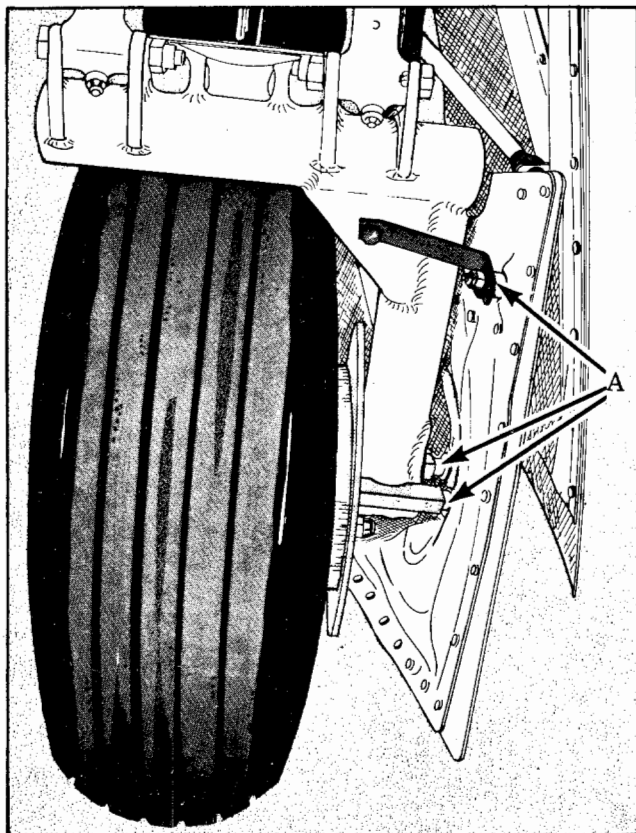

Figure 5-13 . Inboard Gear Door Adjustment Points (M20J Only)
C. Forward leading edge and aft trailing edge should be tight against the wing skin and fair with the aft bubble fairing. Spacers A (Figure 5-13) should be added or removed as required to obtain a good fit with no binding or distortion with the gear in the UP position. AN 960-10 washers may be used as spacers.